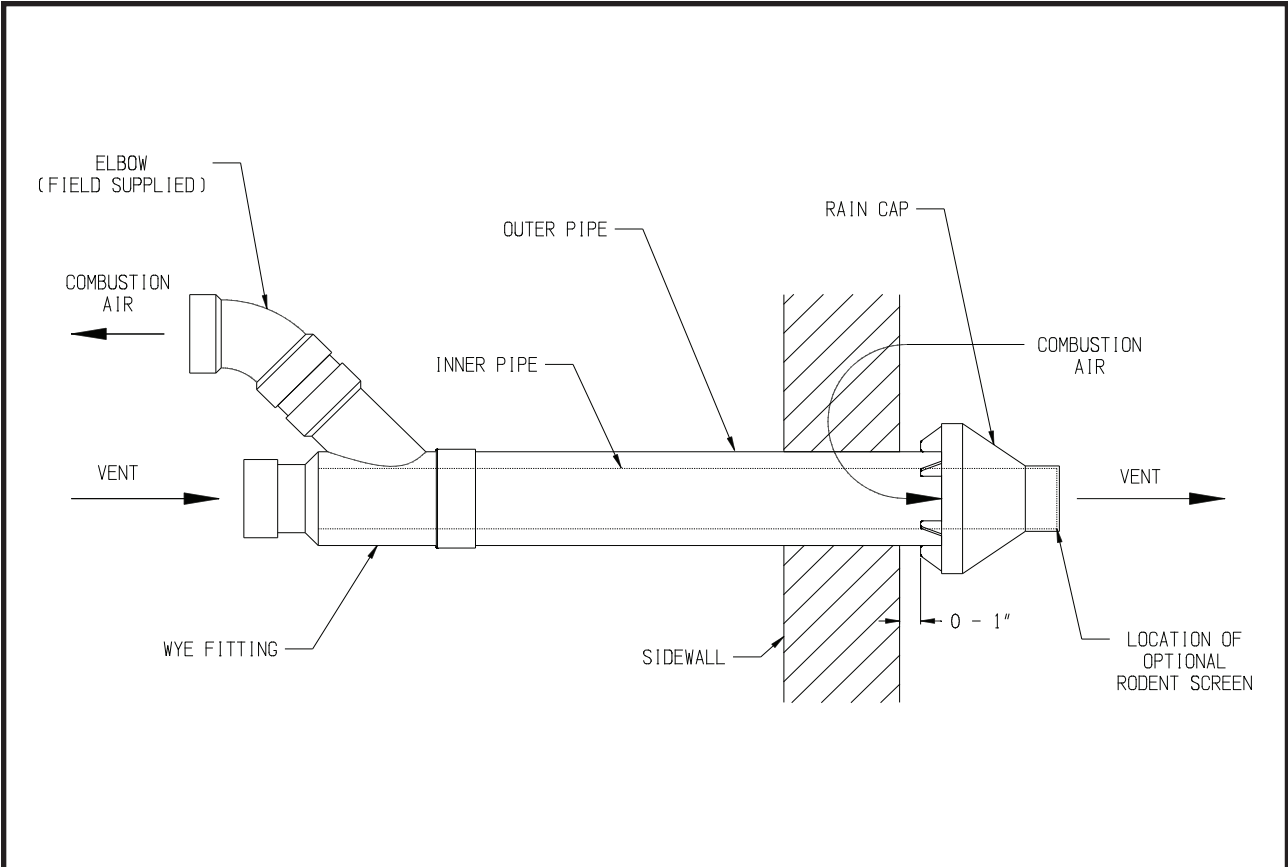

FIGURE 1.21: INSTALLATION OF OPTIONAL CONCENTRIC TERMINAL THROUGH SIDEWALL
- h. Cement the rain cap onto the inner pipe. If desired, the rain cap can be attached to the inner pipe with a field supplied stainless steel screw so that it can be later removed for cleaning and inspection. If this is done, drill a clearance hole in the rain cap and a tap hole in the inner pipe to accept this screw. A 1/2" mesh field supplied rodent screen may also be installed between the rain cap and the inner pipe (Figure 1.21)